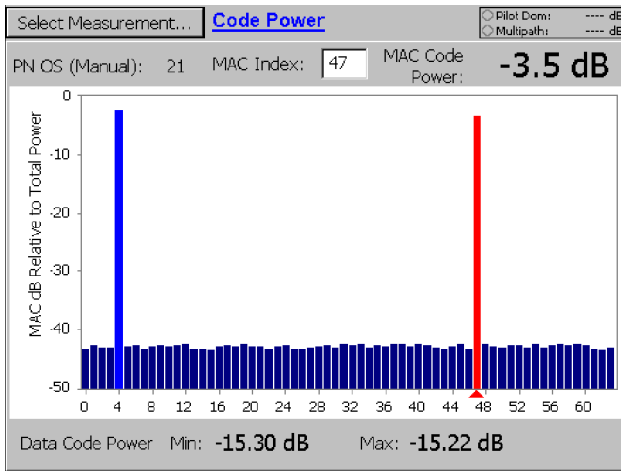

Figure 3-52: 1xEV-DO Code Domain Power display
- Tap **Code Power**. See Figure 3-52.